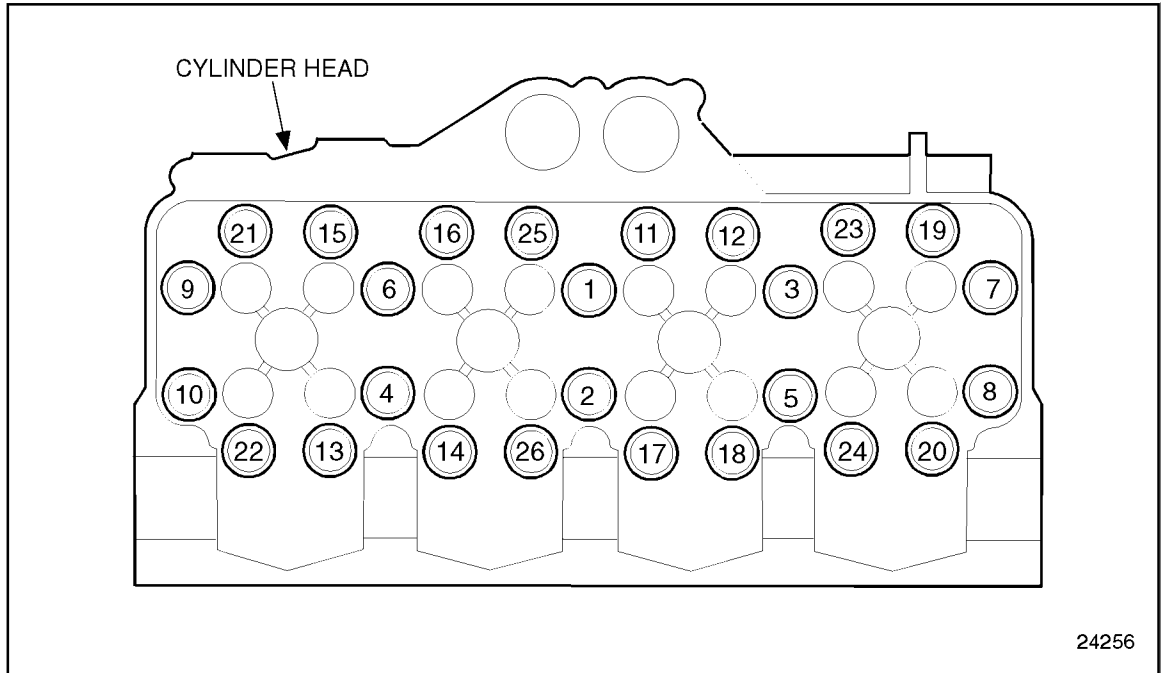

Figure 1-41 **Cylinder Head Bolt Tightening Sequence**
6. Torque the head bolts to 250-285 N·m (185-210 lb·ft) in the following sequence. See Figure 1-41. After September 2002 a new cylinder head bolt will be used for all Series 50 engines. The new bolt will be identified with white paint and groove on top of bolt. See Figure 1-42. Torque the new head bolts to 298 N·m (220 lb·ft). There is no change to the procedure other than the new torque value. The new head bolt can be used with the former cylinder head gaskets, the former head bolts cannot be used with the new head gasket. Former and new bolts must not be mixed.